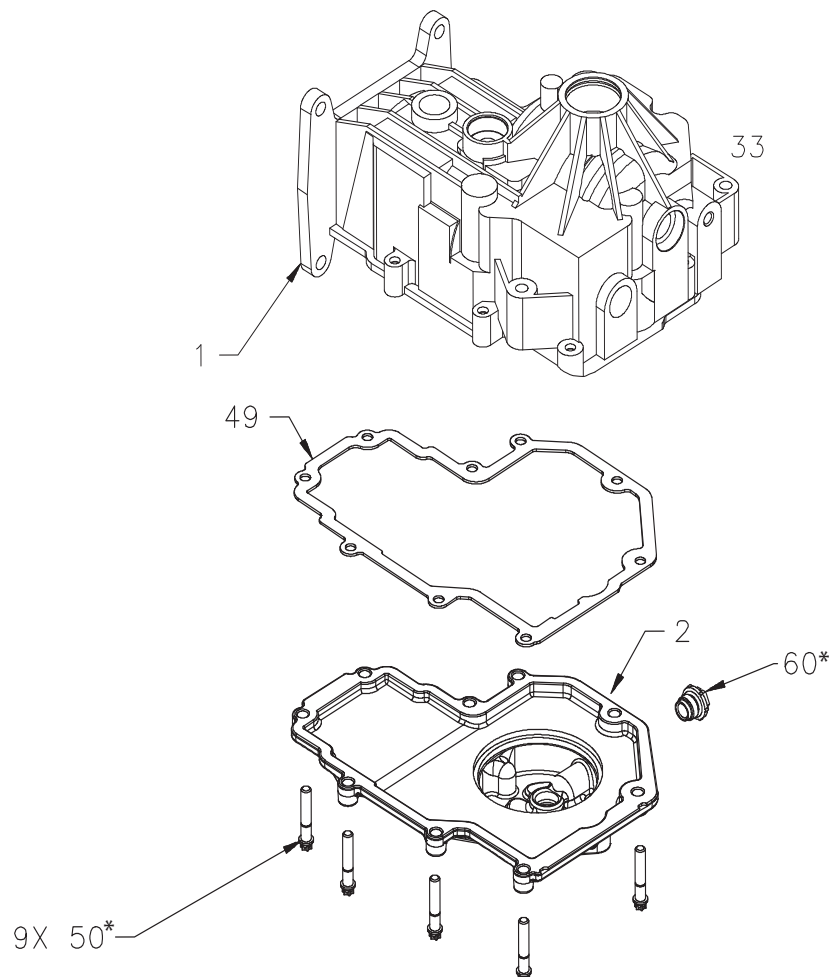

Figure 13. Bottom Cover
Refer to figure 13.
1. Disassemble the pump cylinder block assembly (4). Check each piston for proper operation by pressing the pistons in and releasing them in the block bore. Disassemble the motor cylinder block. Check for piston/block wear in the cylinder bore. Inspect the pistons, piston springs and thrust washers for excessive wear or damage. *Note:* Thrust washers may be held in place in the piston by residual oil.
2. Inspect the block running surfaces. *Note:* These “sealing” surfaces (see figure 13 B) should be smooth in appearance without scratches, scoring, nicks or abrasions. Drag a fingernail across the surface to detect uneven wear or scratches which may not be visible.